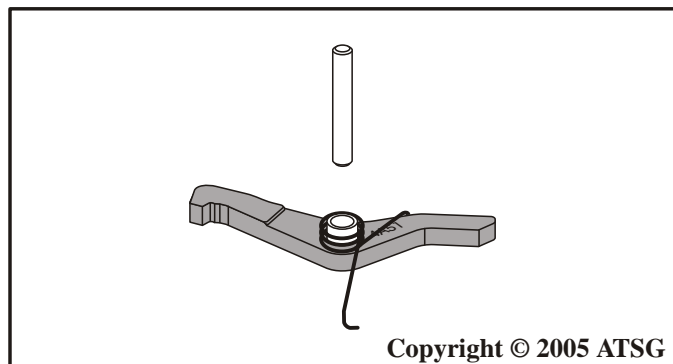

Figure 163
23. Pre-assemble park pawl, return spring, and the bushing, as shown in Figure 163.